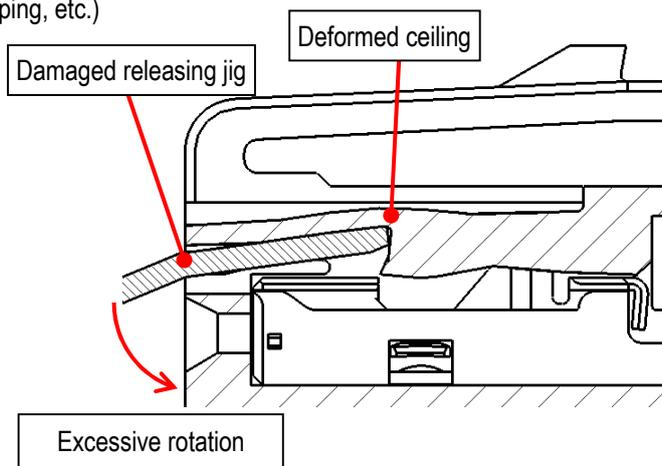
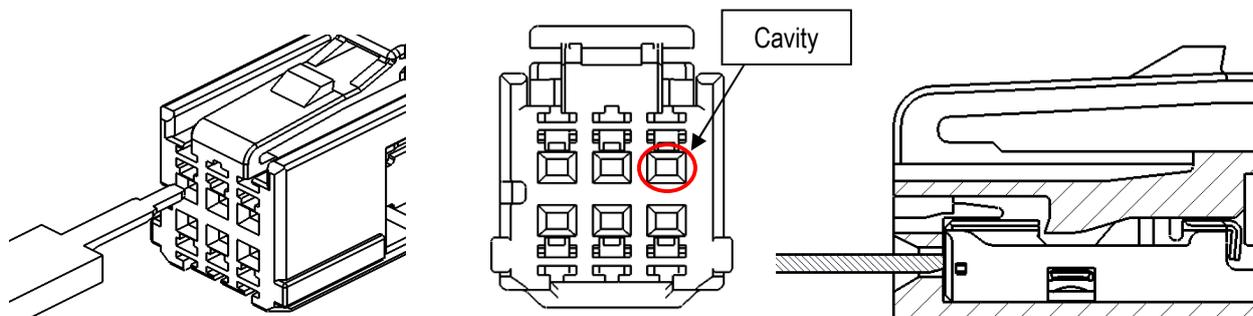

Fig.42 Deformed ceiling, Damaged releasing jig
Fig.43 Incorrect insertion of the releasing jig
- ② Do not continue applying force once the lance has reached the ceiling, or the ceiling will be deformed or releasing jig may be damaged by excessive force. Take sufficient care when handling. (see Fig.42)
- ③ If there is any damage or deformation on the terminal or the housing, do not use the damaged item. Replace the item with a new one.
- ④ Only use the terminal releasing jig specified.
- ⑤ Do not insert the releasing jig into the cavities (see Fig.43)